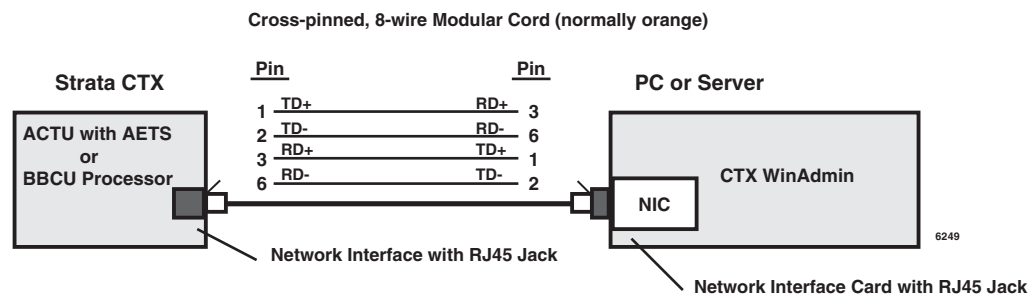

Figure 2-1 Direct Connection to Strata CTX
1. Connect the RJ45 cable between your PC's NIC jack and the Strata CTX Network Interface jack. If you are connecting to Strata CTX directly without using a Network hub, use an RJ45 cross-pinned cable. If you're connecting to the Strata CTX via a hub, use a straight-pinned RJ45 cable. See Figures 2-1 and 2-2.